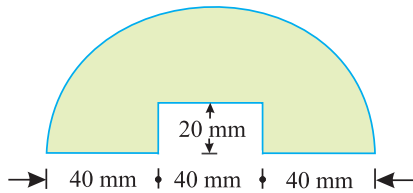

Fig. 7.26.
- The cross-section of a beam is shown in Fig. 7.26. Find the moment of inertia of the section about the horizontal centroidal axis.